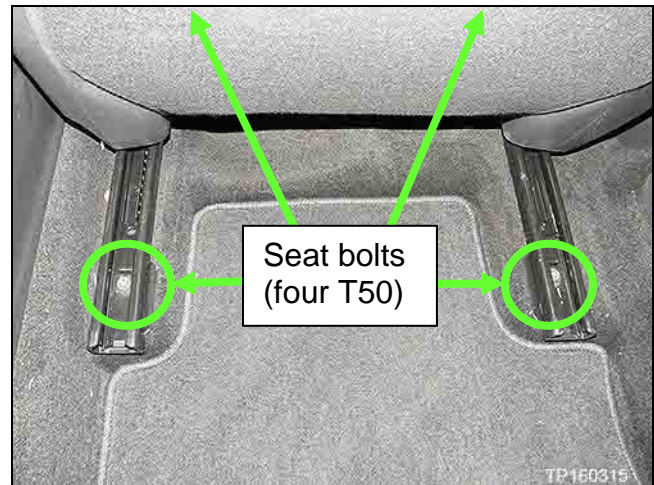

Figure 2
- Rear bolts shown in Figure 2. Front bolts not shown.